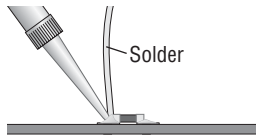

Figure 1.7.
- 4 Fully solder the other end of the component to its pad. Let the solder harden (Figure 1.7).